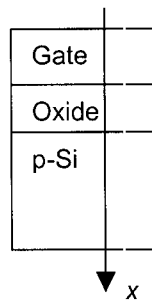

Figure 2.1: The MOS-capacitor with the definition of the direction perpendicular to the gate
- c) Sketch the energy band diagram ( $E_c$ ,  $E_v$ ,  $E_g$ ,  $E_F$ ) perpendicular to the gate ( $x$  direction in figure 2.1) through all layers of the MOS-capacitor on a p-type Si substrate when no external bias is applied. The workfunction of the metal  $\phi_m$  is larger than the workfunction of the semiconductor  $\phi_s$ , i.e.  $\phi_m > \phi_s$ . [8]